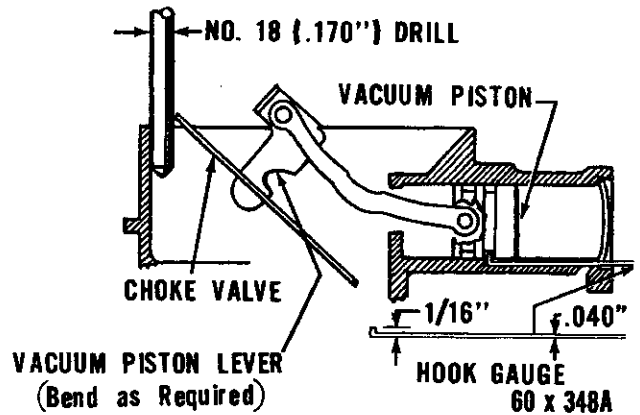

Fig. 17—Vacuum Kick Setting
(1) Remove the welch plug from the choke piston cylinder, and insert a hook gauge (.036 to .040" diameter) into the slot in the cylinder wall. Rotate the hook end so that it engages the end groove in the piston. Apply light closing pressure against the choke valve so that the hook gauge is trapped between the groove in the piston and the end of the slot, as shown in Figure 17. It should be possible to insert a No. 18 (.070") drill between the air horn and the choke valve. If an adjustment is necessary, bend the end of the bracket as shown, until the correct opening has been obtained. Install a new welch plug.